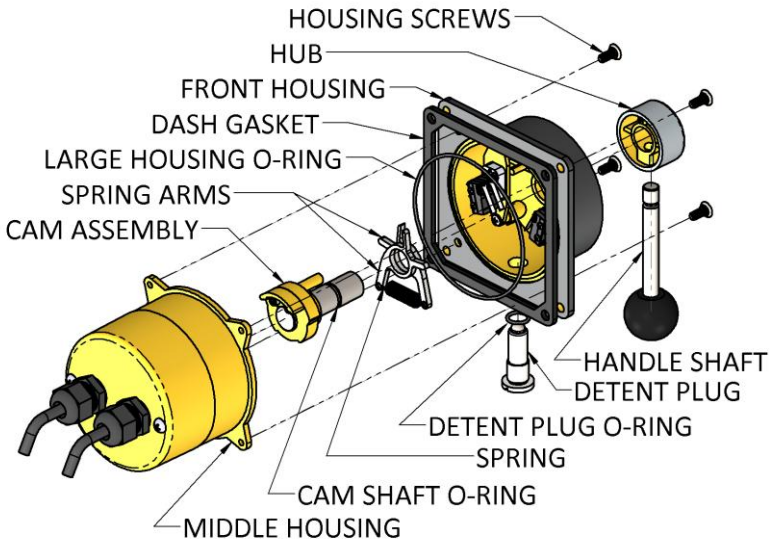

Figure 14: 7196 Parts Diagram for Maintenance
12. Reassemble unit as shown in Figure 14.